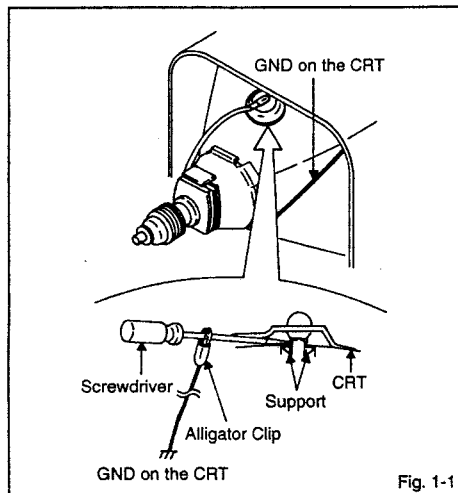

Fig. 1-1
1. Follow the steps as follows to discharge the Anode Cap. (Refer to Fig. 1-1.)
1. In the condition of NO indication on the screen. Press the VOL. DOWN button on the set and the Channel button (9) on the remote control for more than 2 seconds to appear the adjustment mode on the screen as shown in Fig. 1-1.